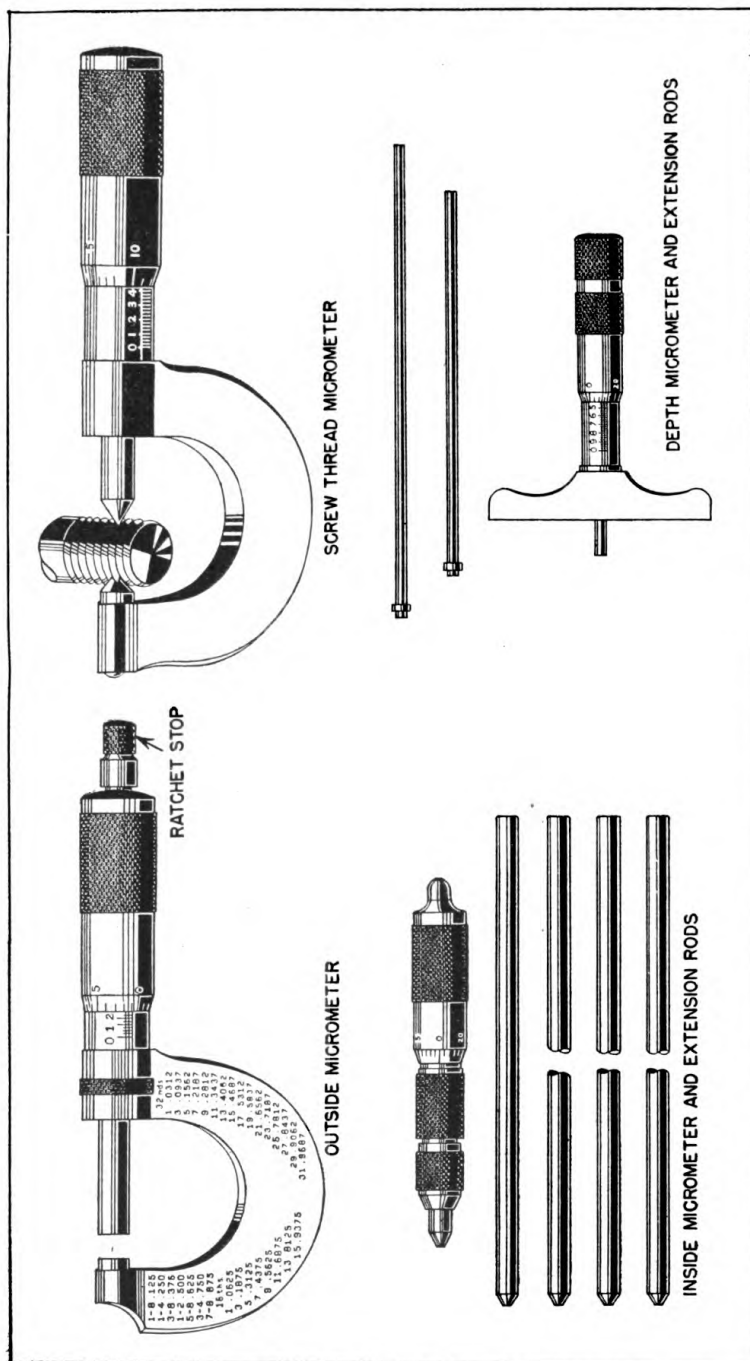

FIGURE 97.—Common types of micrometers.
c. Types of micrometers.—Three types of micrometers are commonly used in automotive work: the outside micrometer (including the screw thread micrometer), the inside micrometer, and the depth micrometer (fig. 97). The outside micrometer is used for measuring outside dimensions, such as the diameter of a piece of round stock. The screw thread micrometer is used to determine the pitch diameter of screws. The inside micrometer is used for measuring inside dimensions, as, for example, the inside diameter of a tube or hole, the bore of a cylinder, or the width of a recess. The depth micrometer is used for measuring the depth of holes or recesses.